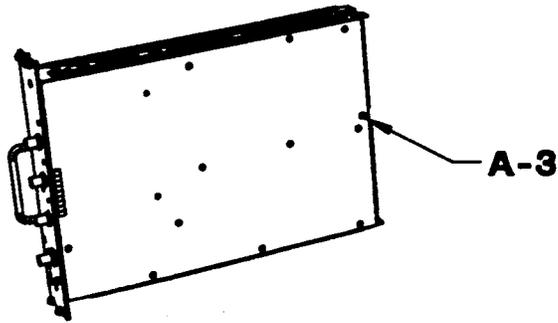

Figure 16-8C. HP E1740A Cover Removal
- 3 [A-3] On the non-labeled side of the instrumentt, remove screw H9 as shown in Figure 16-8C.